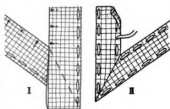

FIGURE 119
*Mitering Straight Bands* (Figure 119). — Place the right side of the band and the right side of the fabric together and baste them  $\frac{1}{4}$  inch from the edge. Pin the inside edge of the band to the fabric to establish the beginning of the miter. Fold back the surplus corners and press with a warm iron to establish the mitering line. Remove the pins and baste along the creased line (I), taking care to match the design, if any. Cut away the excess material one-quarter inch from the basting. Stitch along the line of basting and press open the plain seam. Clip the corners of the seam before turning the band to the right side. With the band on the right side, baste the outer edge so that the plain seam comes directly on the fold. Press the edge of the band with a warm iron. Turn under a narrow hem on the inner edge of the band and